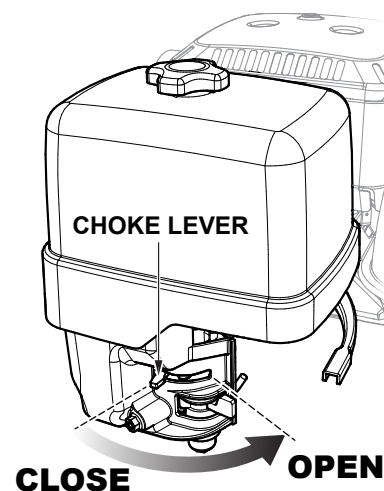

Figure 23. Choke Lever (Open)
4. If starting a warm engine, place the choke lever in the **OPEN** position (Figure 23).